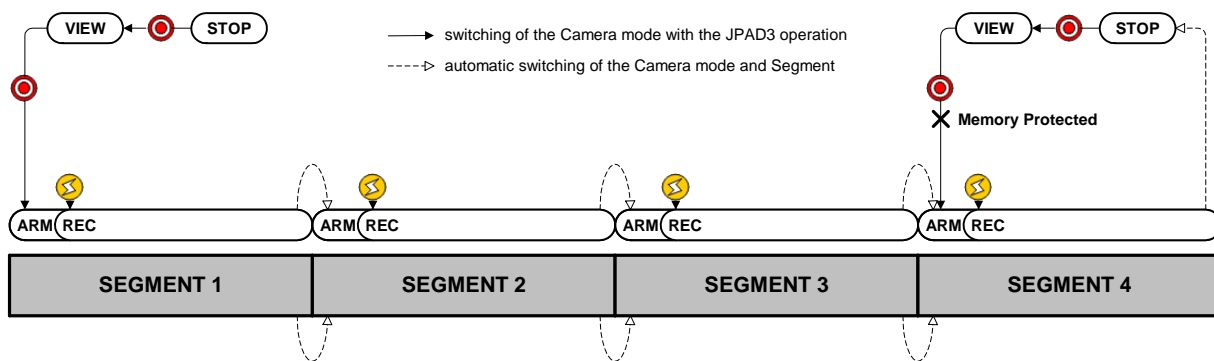

Figure 3-32 Normal Recording (NORMAL(A), Number of Segments : 4)
Figure 3-32 shows how to switch modes with the J-PAD3 during NORMAL(A) recording (top of the figure) and saving in the memory (bottom of the figure).